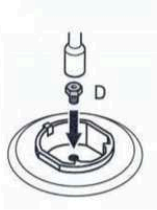

Figure 19.2
- Fix the injector (D) you want to convert as shown in the Figure 19.2 (see Table 1).